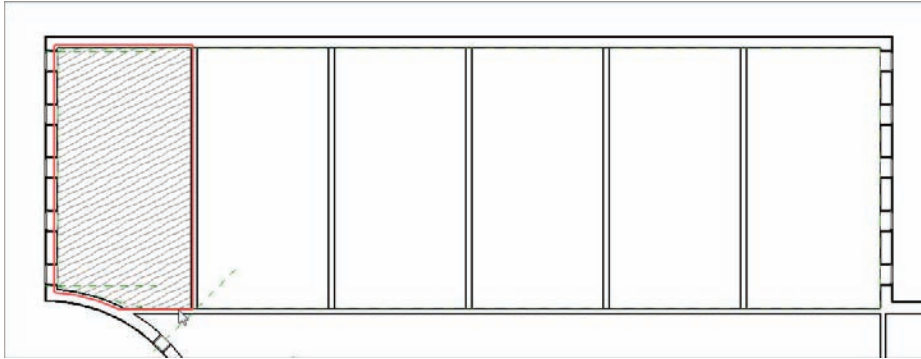

FIGURE 9.21 The cherry-veneered plywood ceiling
21. Place the ceiling in the room shown in Figure 9.21.